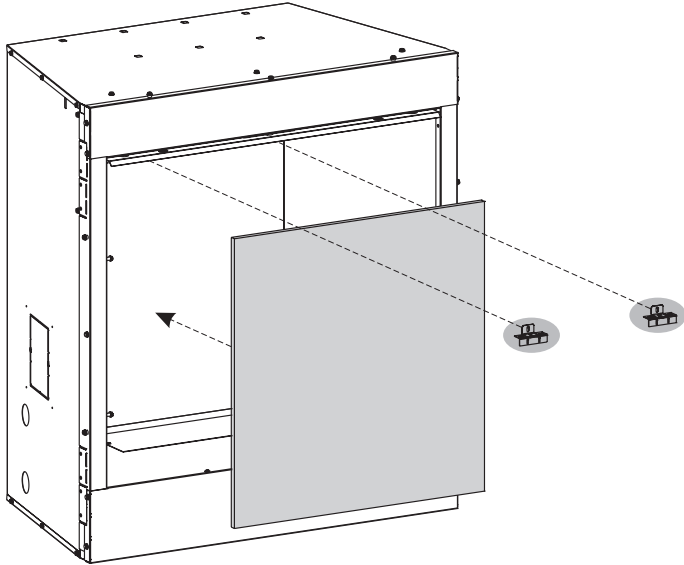

Figure 3
6. Secure rear liner with two retainer brackets at the top with two screws. **See Figures 3 and 5.**